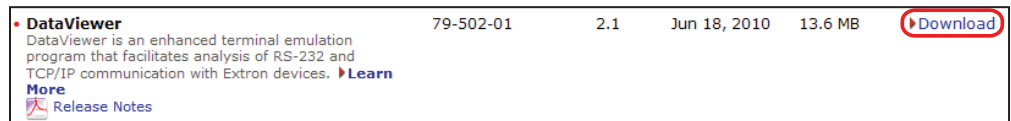

Figure 92. DataViewer Download Link
3. On the next Download Center page, navigate to the DataViewer program and click the **Download** link (see figure 92).